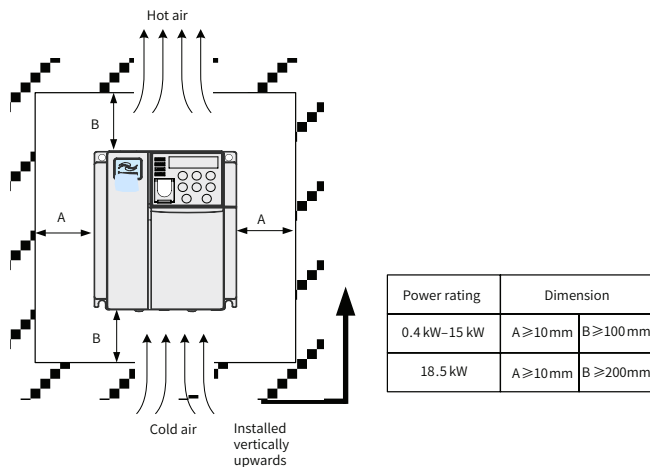

Figure 3-1 Mounting clearance for drives with different power ratings
- 1) Reserve the installation clearances as specified in Figure 3-1 to ensure sufficient space for heat dissipation. Reserve enough space for heat dissipation of other components in the cabinet.